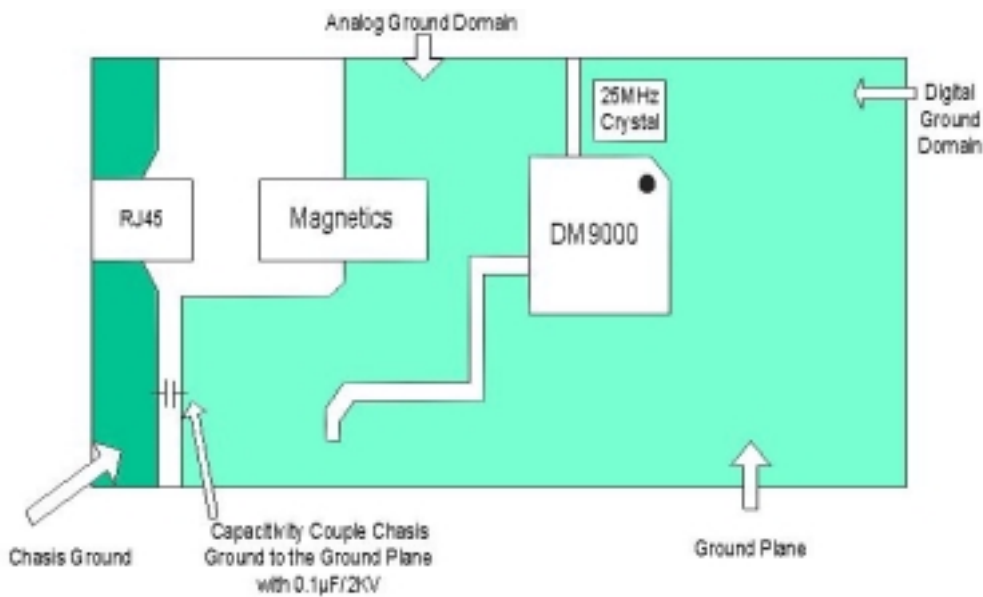
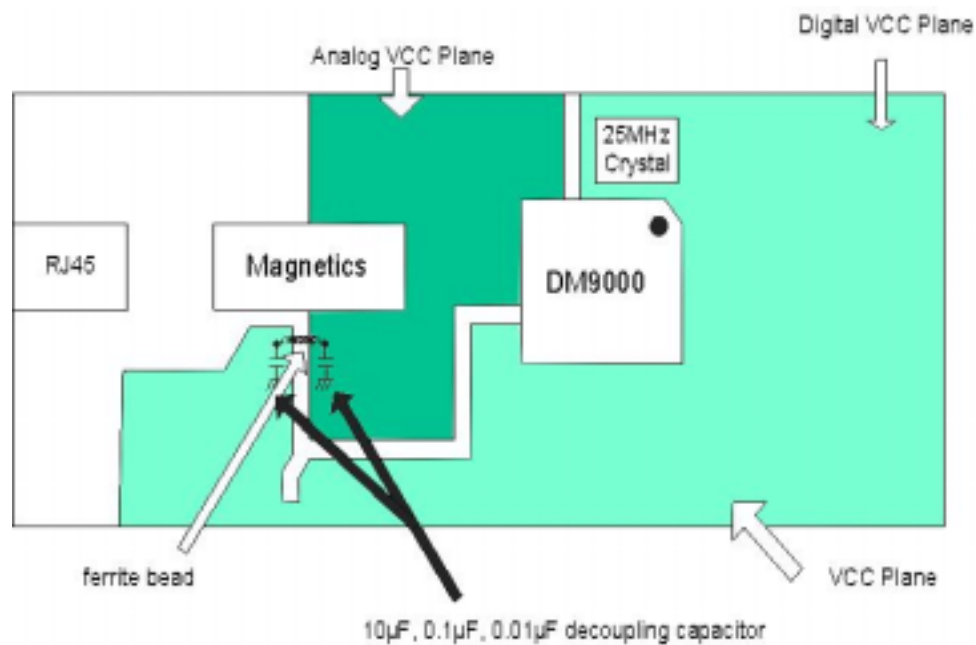

Figure 3-1
Figure 4
- The network interface (see Figure 3-1 and Figure 4) does not route any digital signal between the DM9000 RX \pm and TX \pm pairs to the RJ-45. Keep the two pairs away from all the other active signals and the chassis ground.
- Ground plane need separate analog ground domain and digital ground domain. The analog ground domain and digital ground domain connected line is far away from the AGND pins of DM9000 (see Figure 3-1).
- The power planes should be approximately illustrated in Figure 4. The ferrite bead used should have an impedance 100Ω at 100MHz and 250mA above. A suitable bead is the Panasonic surface mount bead, part number EXCCL4532U or an equivalent. A $10\mu\text{F}$, $0.1\mu\text{F}$ and $0.01\mu\text{F}$ electrolytic bypass capacitors should be connected between VDD and GND at the device side of each of the ferrite bead.